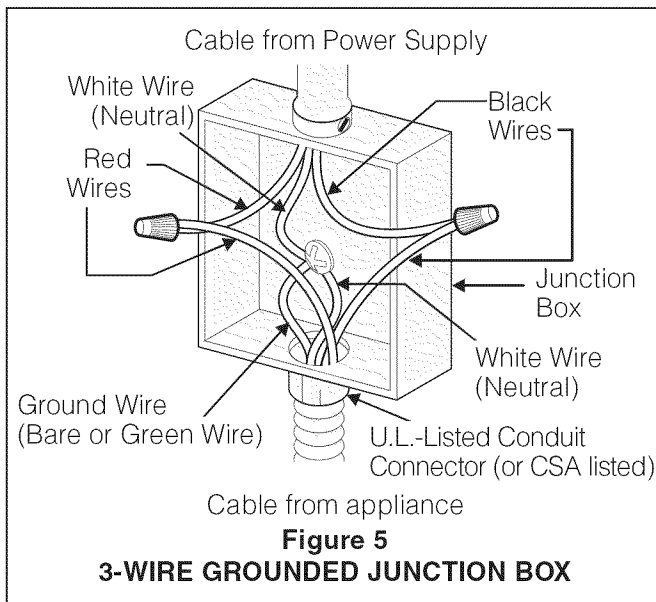
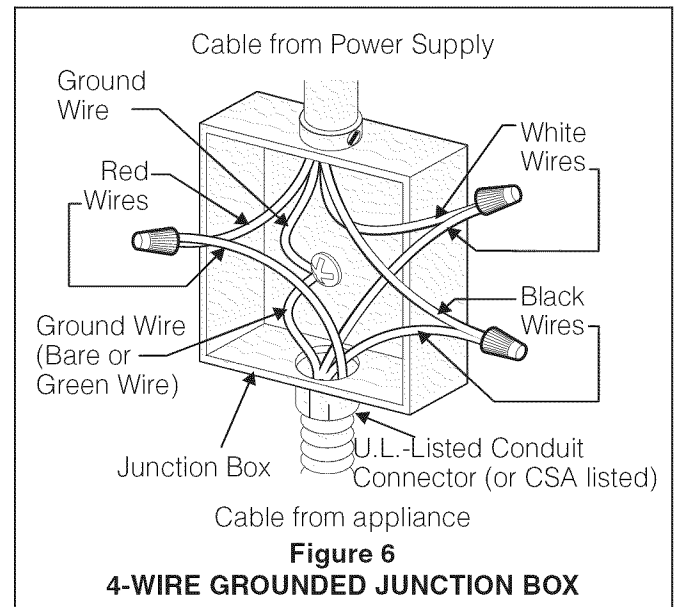

Figure 5
Figure 6
Where local codes permit connecting the appliance-grounding conductor (wire) to the neutral (white) wire (see figure 5):
2. In the circuit breaker, fuse box or junction box, connect appliance and power supply cable wires as shown in figure 5.
⚠ WARNING This appliance is manufactured with a white neutral power supply and a frame connected copper wire. The frame is grounded by connection of grounding lead to neutral lead at the termination of the conduit, if used in USA, in a new branch circuit installation (1996 NEC), mobile home, recreational vehicles, where local code do not permit grounding through the neutral (white) wire or in Canada, disconnect the white and green lead from each other and use ground lead to ground unit in accordance with local codes, connect neutral lead to branch circuit-neutral conductor in usual manner see Figure 6. If your appliance is to be connected to a 3 wire grounded junction box (US only), where local code permit connecting the appliance-grounding conductor to the neutral (white) see Figure 5.
If cooktop is used in a new branch circuit installation (1996 NEC), mobile home, recreational vehicle, or where local codes DO NOT permit grounding through the neutral (white) wire (see figure 6):
3. In the circuit breaker, fuse box or junction box: connect appliance and power supply cable wires as shown in figure 6.